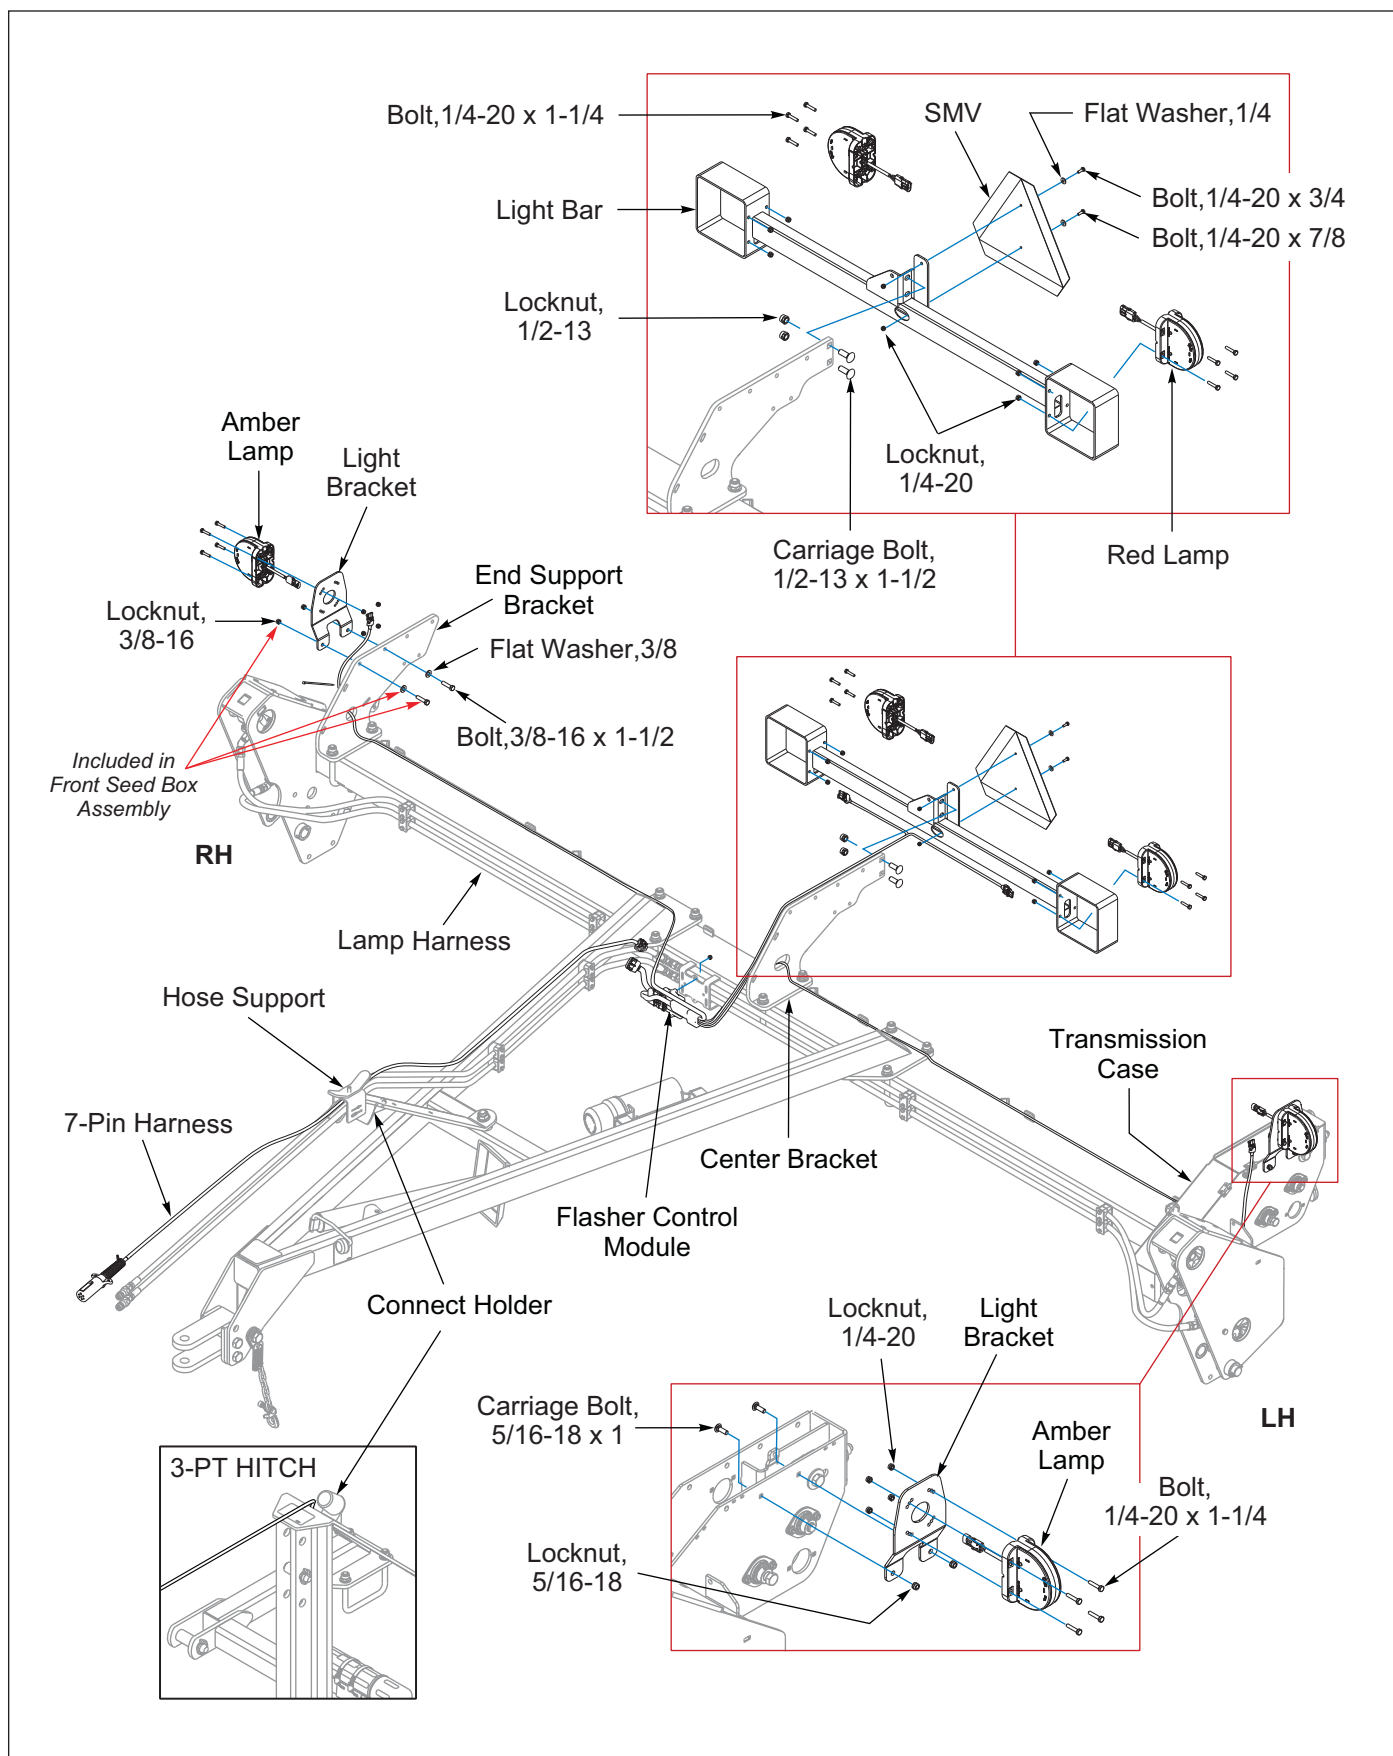

Figure 2-24: Warning Lamp Installation - 12FT (After 08/2025)
1. Attach an Amber Lamp to each of the Light Brackets with 1/4-20 x 1-1/4 Bolts and Locknuts. **See Figure 2-24.**
7. If not installed, attach the Connector Holder to the Hose Support. **See Figure 2-24.**